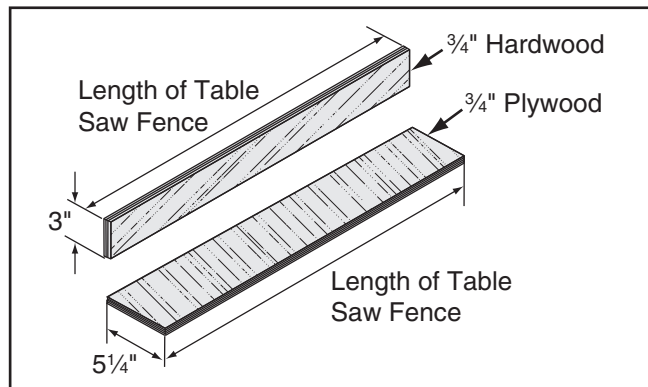

Figure 88. Auxiliary fence dimensions.
1. Cut a piece of $\frac{3}{4}$ " thick plywood $5\frac{1}{4}$ " wide and as long as your table saw fence; cut a piece of $\frac{3}{4}$ " thick hardwood 3" wide and as long as your table saw fence, as shown in **Figure 88**.